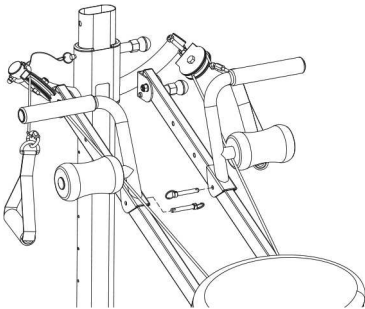

FIGURE 3
3. Insert the 2 Short Hitch Pins through the holes on the Multi Function Attachment Brackets and the hole on the Rails, as shown in Figure 3.